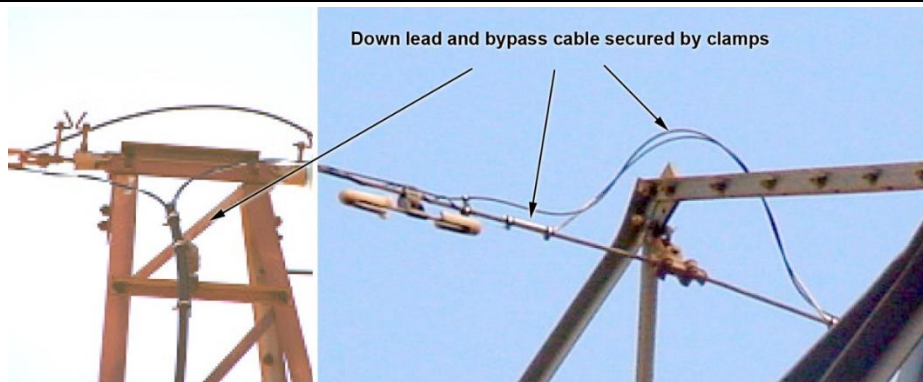

Figure 5: Down Lead and Bypass Cable
- g) Visually check the condition of all the down lead cables, ensure that the clamping assemblies on each tower are still secured and the spacing between the clamps is 1-2m apart (see figure 5).
- i) Check that the clamps holding the mast bypass-fibre are in place, secure and there is no chafing against tower members (see figure 5).